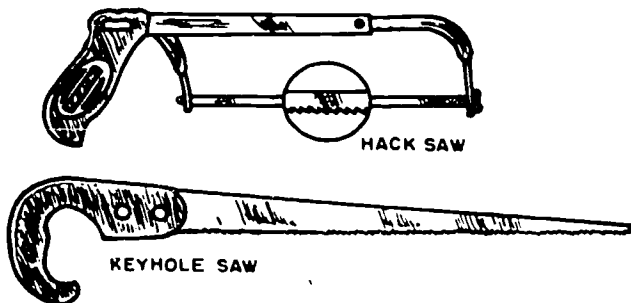

Figure 1-22. Saws.
c. Saws. Figure 1-22 illustrates a hacksaw and a keyhole saw. Use the hacksaw to cut pieces of metal, tubing, etc. Its frame is normally adjustable to use blades from 8 to 16 inches in length. The points of the teeth on the blade should point away from the handle when the blade is properly attached to